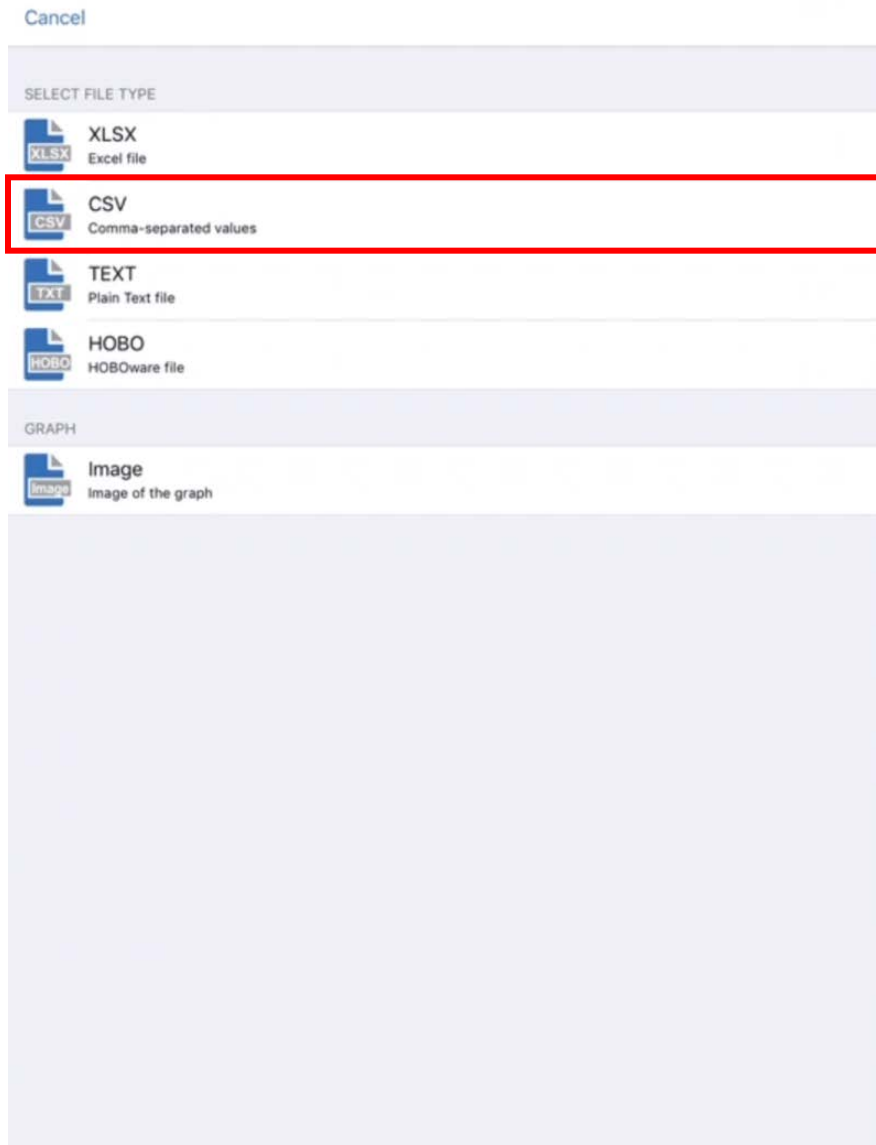

Figure A.7.19: The HOBOMobile “Share” screen.
- At the “Share” screen. Tap the “CSV” option, boxed in on Figure A.7.19. Make sure that your iOS or Android device is connected to the internet before proceeding.